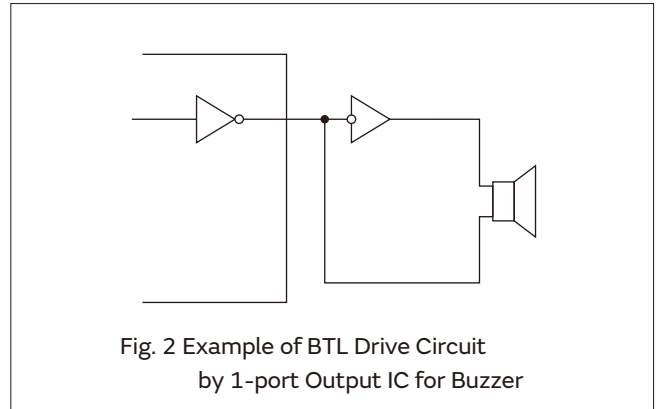

Fig. 2 Example of BTL Drive Circuit by 1-port Output IC for Buzzer
(2) In a case that is driven by IC directly like as Fig. 2, input voltage of Piezoelectric sound components should be twice as high because of the BTL (Bridge Tied Load) drive circuit, which includes an inverter.
When the piezoelectric diaphragm oscillates freely in air, the node does not move as shown in Fig. 1. With this point held with a measuring terminal, the resonant frequency ( $f_0$ ) and resonant impedance ( $R_0$ ) are measured in the constant-current circuit as shown in Fig. 2.